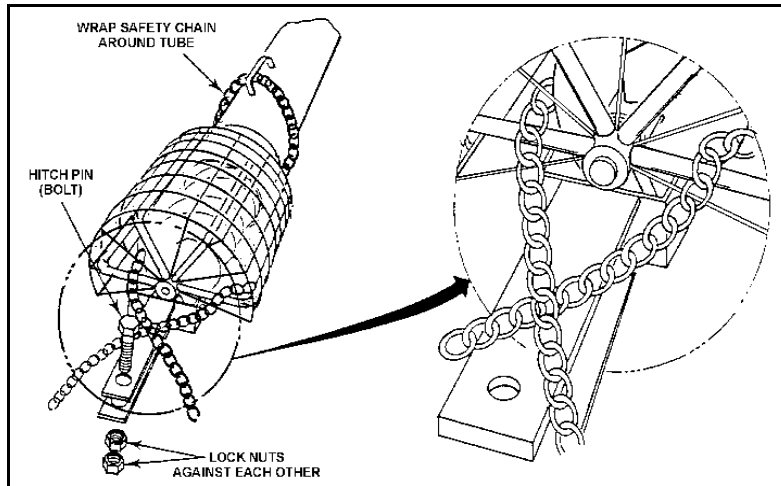

Figure 4.1
3. Place and secure hitch pin and safety chain. Thread safety chain through handle on the lower tube and wrapped around auger tube before attaching to the towing vehicle (Figure 4.1).